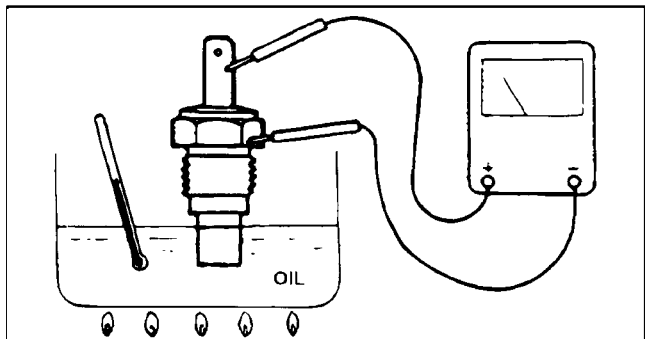

Figure 33
2. Put the sender in a container of oil with a thermometer and slowly heat the oil (Fig. 33).
3. Check resistance of the sender with a multimeter. Check resistance between pin 1 and the sender casing (Fig. 33).